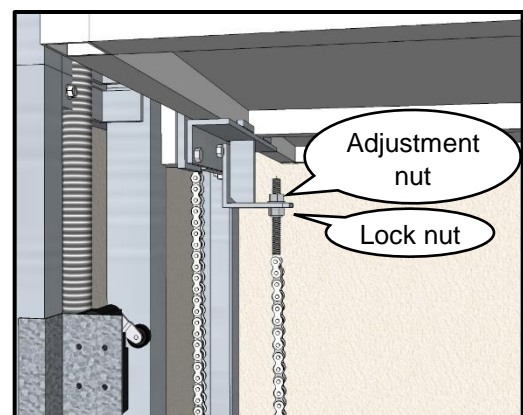

Figure 8
- 5 Using two 9/16” wrenches (15/16” for MJ-500 model), back lock nut off and then tighten down adjustment nut until chain is taught. Once chain is taught use a blade screwdriver or needle nose pliers to hold the chain from twisting and tighten lock nut up to adjustment nut securely. (see Figure 8)